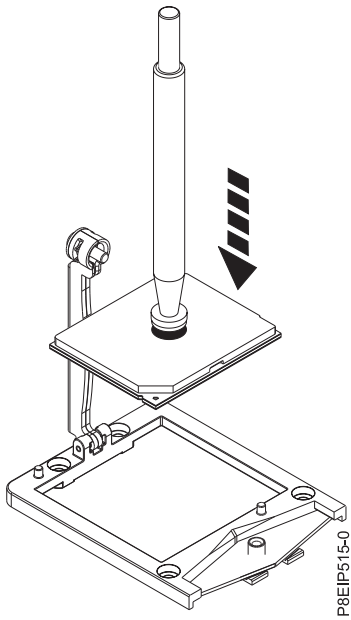

Figure 70. Lowering the processor into the socket
- a. Lower the pen and system processor module onto the socket as shown in Figure 70 on page 60. Align the beveled corner of the processor with the beveled corner on the socket. Use care to lower the tool evenly without tilting the processor.